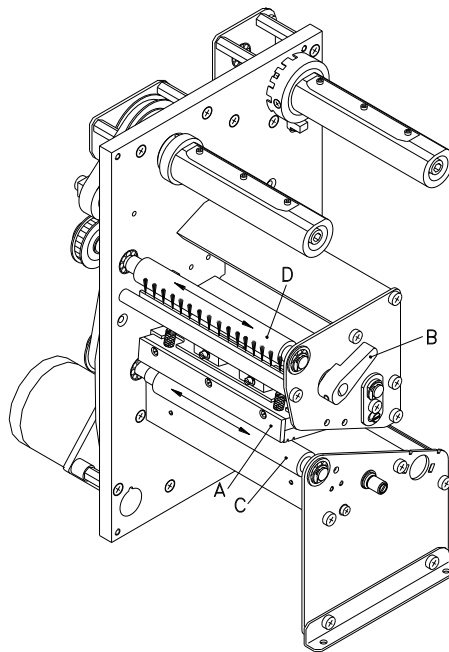

Figure 1
2. Turn the red lever (B, in Figure 1) counter clockwise to lift up the printhead.
4. Blow out the photocell (A) with pressure gas spray. Observe strictly the instructions on the spray can!
5. Clean the label photocell (A) additionally with a cleaning card (B) before soaked in pure alcohol. Move the cleaning card from one side to the other (see illustration).